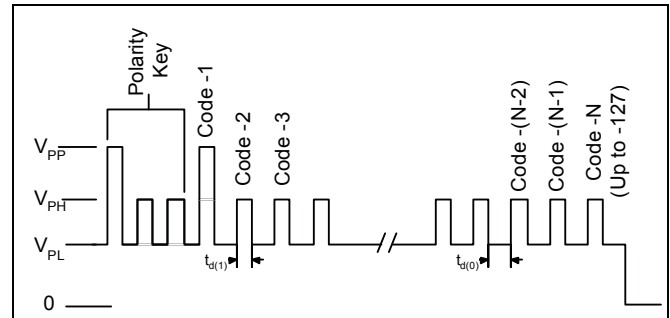

Figure 3. Addressing Pulses: Negative Polarity
**Addressing with negative polarity** The magnetic operate point,  $B_{OP}$ , is adjustable with negative polarity using 7 bits or 128 addresses. To invert the polarity it is necessary to first apply a keying sequence (figure 3). The polarity key contains a  $V_{PP}$  pulse and at least 1  $V_{PH}$  pulse, but no more than 6  $V_{PH}$  pulses; the key in figure 3 shows 2  $V_{PH}$  pulses. The addresses are then sequentially selected until the required operate point is reached. The first address must be selected with a high voltage pulse,  $V_{PP}$ , while the remaining pulses should be  $V_{PH}$  pulses.